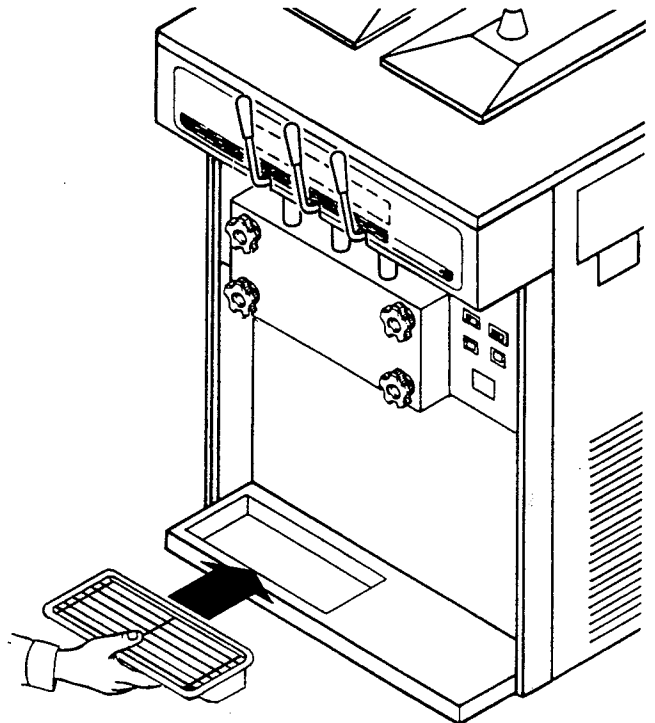

Figure 5. Installing Tray and Cover
- E. Install the drip tray, covers and other miscellaneous parts on the freezer (Fig. 5).